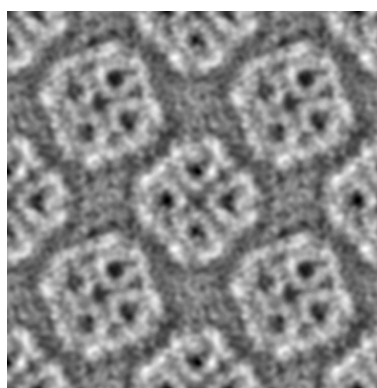

Figure 57: Map before ML
Maximum likelihood (ML) processing is available in `2dx_image` for two-dimensional alignment. This is a refinement process which should be performed after the unbending process. The corresponding script is called *ML-2D (for advanced users)* and can be found in the Standard Script panel. The density map shown in Figure 57 shows the result obtained without maximum likelihood refinement.